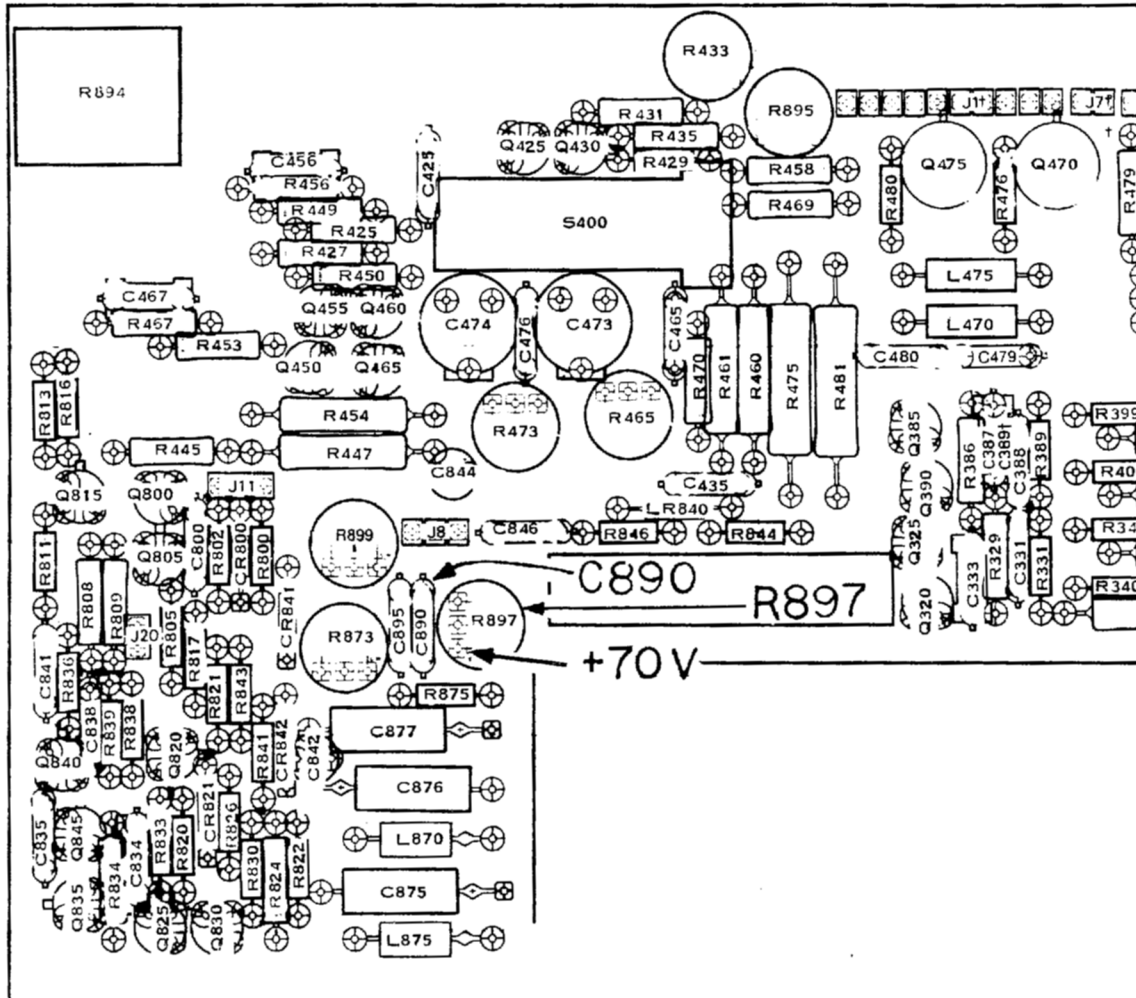

Fig. 1 Partial - F & I circuit board
- () 2. Remove the Geometry adjust potentiometer, R897 (see Fig. 1).
- () 4. If your instrument has a red-violet wire soldered to the board at the location labeled +70V in Fig. 1, remove the wire from the board, and remove it from the pin in the crt socket to which it connects.